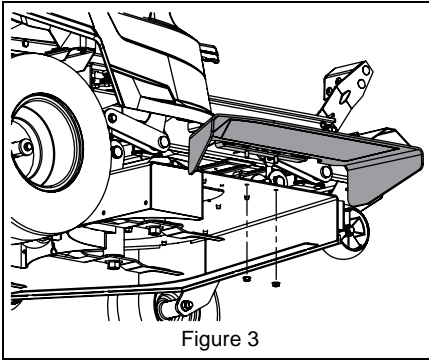

Figure 3
1. Remove two 5/16" hex nuts retaining discharge chute and remove assembly. Retain for operation without bagger attached. See Figure 3.